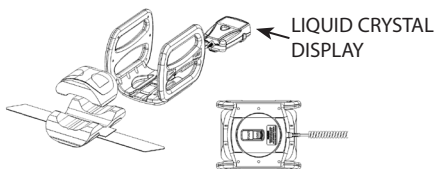

Figure 2. OL1000
1. Place device (Figure 2, above) centered around where your broken bone is located on your body. If you have a cast, brace or external fixator, you may remove the foam pads from the OL1000 for a better fit.